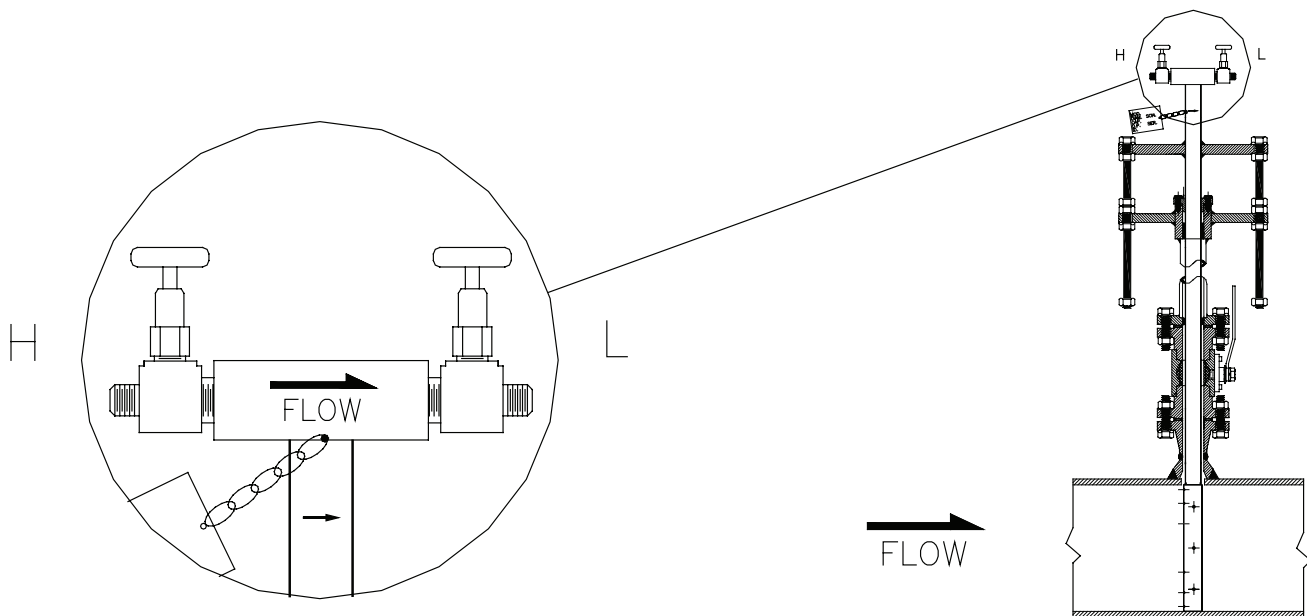

Figure 3: Sensor alignment
- Mount the flanged cage nipple, weldneck flange and packing gland with threaded rods assembly by bolting it into the isolating flanged ball valve. Align the arrow on the sensor head with the direction of flow. See Figure 3.